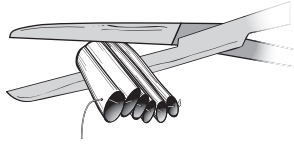

FIGURE 5
- After the GORE BIO-A Fistula Plug is properly positioned within the fistula tract and the disk is secured at the internal (primary) opening, carefully trim any excess tubes that protrude beyond the perianal skin at the external (secondary) opening (Figure 5).